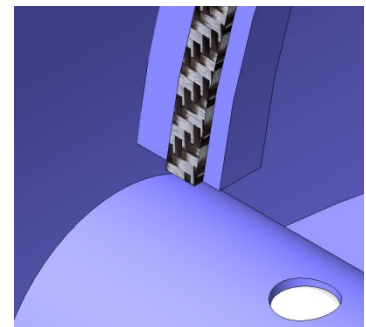

fig. 16
5. Carefully clean the channel for the seals. Ensure that it is clean of any excess or waste in order to fit the new seal strips (10) correctly.
6. Position the new seal strips (10) in their location. The new seal must also comply with the dimensions and characteristics necessary for the damper butterfly.
7. Cut both seal strips (10) to ensure they are flush with the half-moon rims (fig. 16).